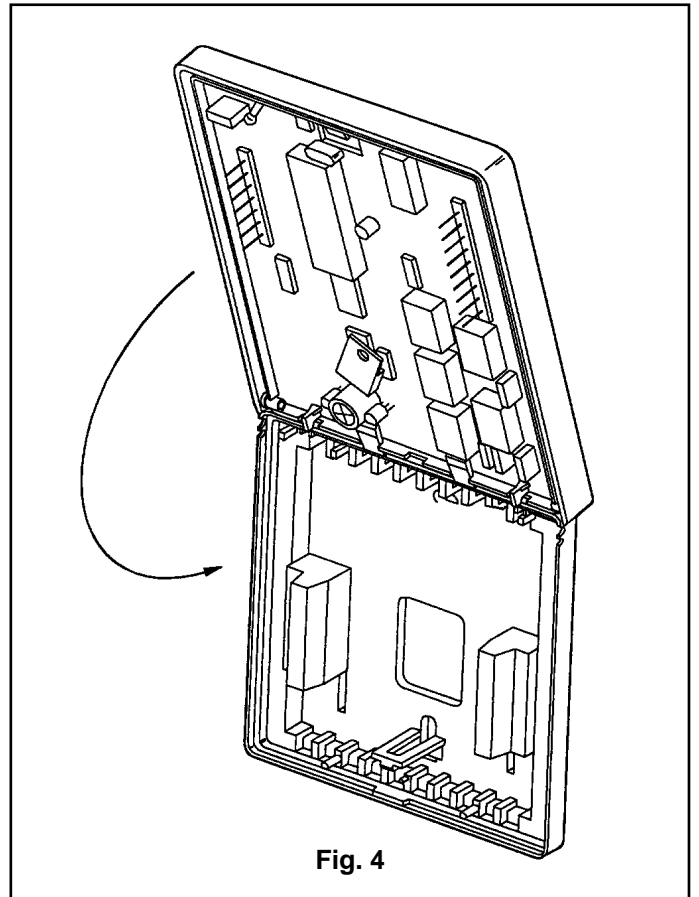

Fig. 4
2. Swing the thermostat and cover down, and press on the bottom centre edge until they snap in place. (See figure 4).